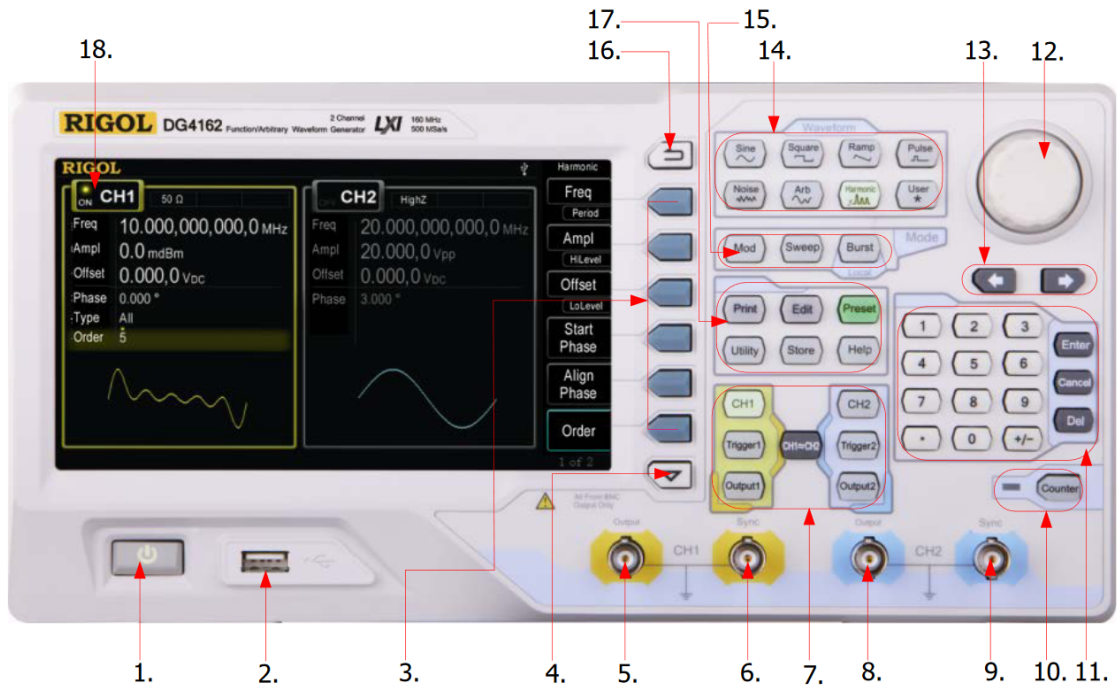

Figure 3: Front panel of DG4162 Function Generator
3. Maximize optical transmission for low voltages: Verify that the BNC cable labeled 'Fast HV amplifier' is connected to the signal output port of the second function generator channel (button 8 in Figure 3). Click 'Arb' and scroll down the menu display (button 4 in Figure 3). Select the 'DC' waveform option that shows up. Set the output DC level to -9 Volts. Press the 'Output2' button. Now slowly rotate the half wave plate until the optical power is **maximal** for that low voltage.